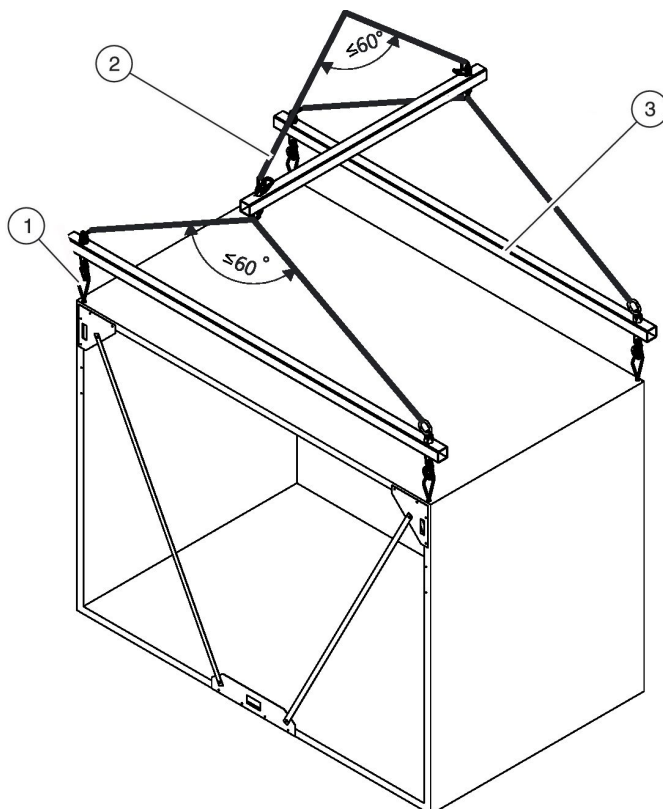

Fig. 8: Moving units with a crane and lifting eyes or eye nuts (with a spreader beam)
2. ▶ Insert all lifting eyes or eye nuts ( Fig. 8 /1) completely into the threaded holes.
3. ▶ Hook the spreader beams ( Fig. 8 /3) into the lifting eyes or eye nuts.
4. ▶ Connect the spreader beams with chains ( Fig. 8 /2).